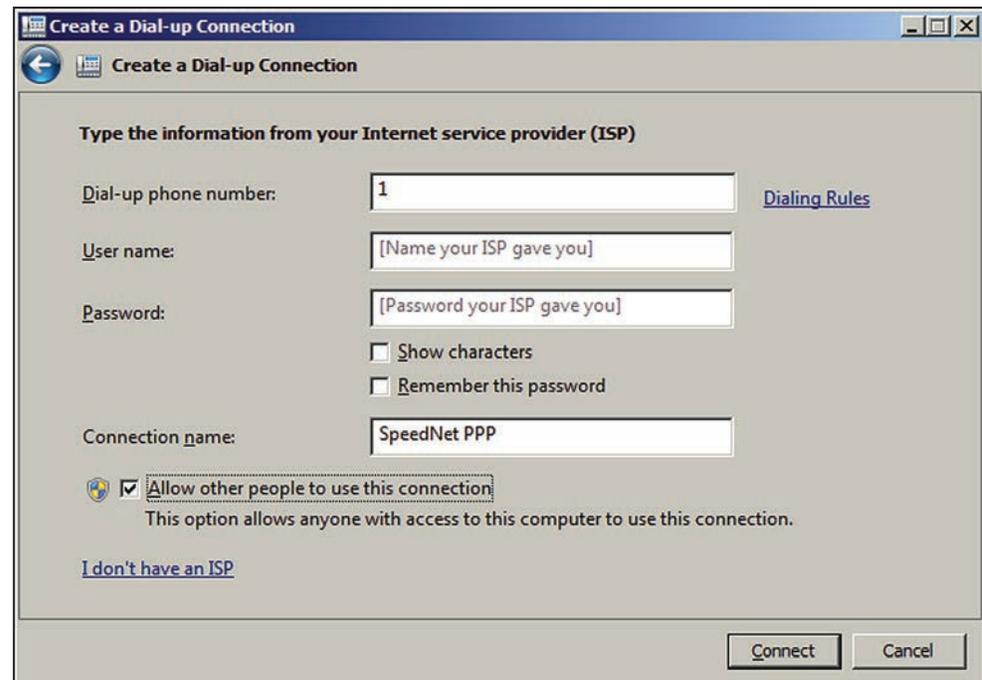

Figure 11. The Create a Dial-up Connection dialog box.
STEP 3. In the **Dial-up phone number** field, enter any number, and in the **Connection name** field, enter a descriptive name. See Figure 11.
STEP 4. Click on the **Connect** button. See Figure 11 on page 10. The Connecting to SpeedNet PPP... dialog box opens. See Figure 12.